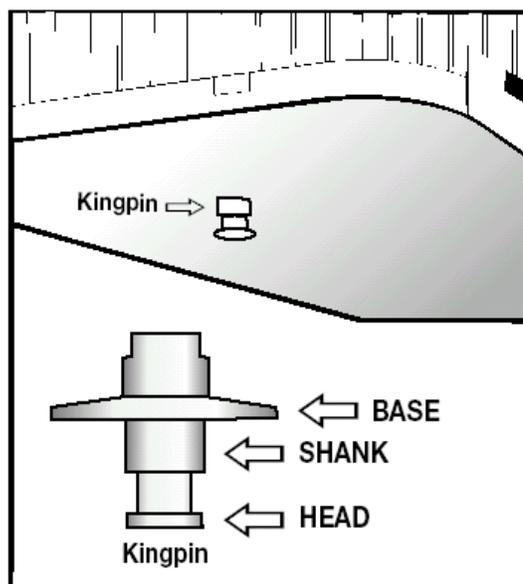

Figure 6.16
- Locking jaws around the shank, not the head of kingpin. See Figure 6.16.